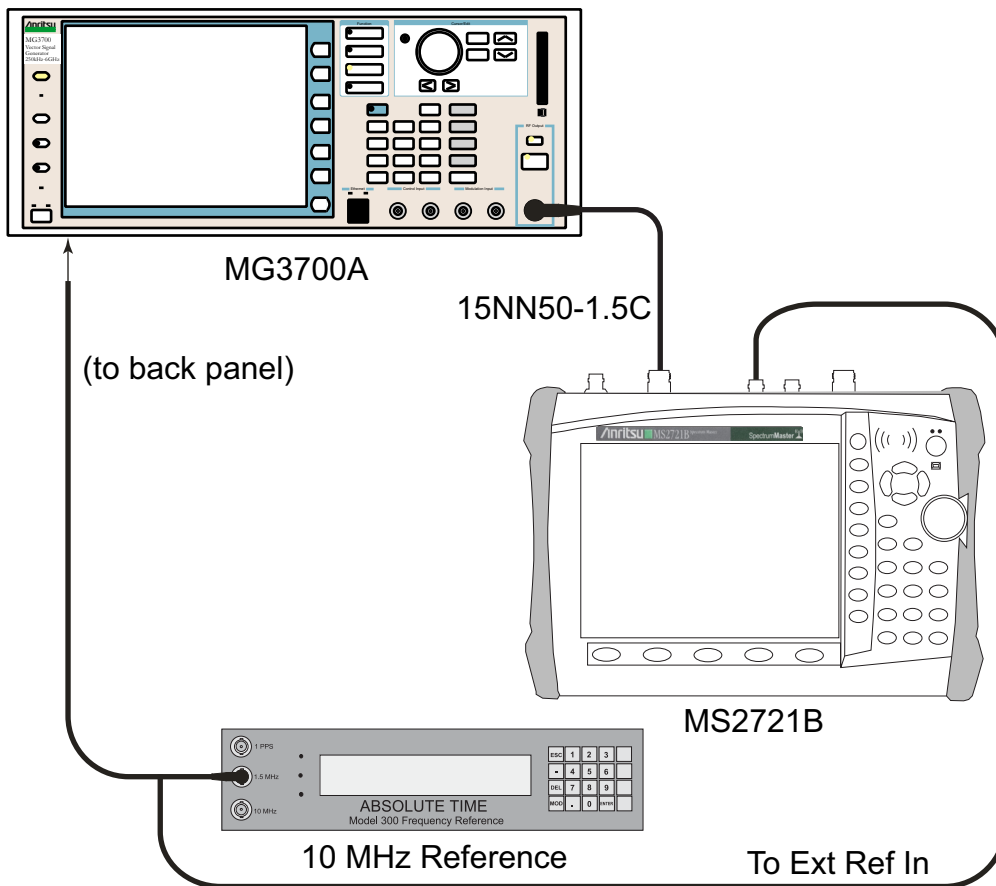

Figure 3-28. Mobile WiMAX Residual EVM – Test Setup (Option 67)
1. Connect the 10 MHz Reference to the 10 MHz/5 MHz Ref Input of the MG3700A and the Ext Ref In of the MS2721B as shown in Figure 3-28.